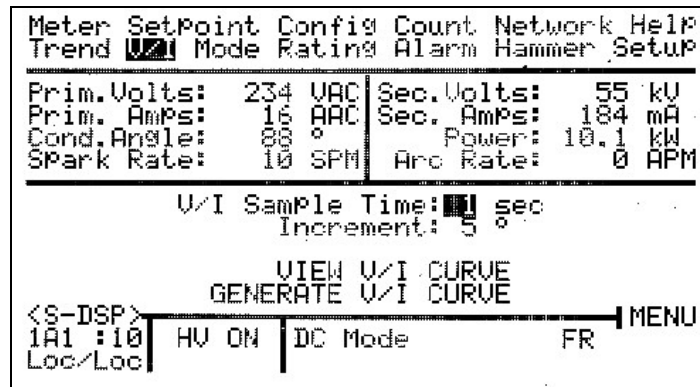

Figure 1-13
2. on the **V/I** display (fig. 1-13) move to **View V/I Curve** and press <Enter> again.